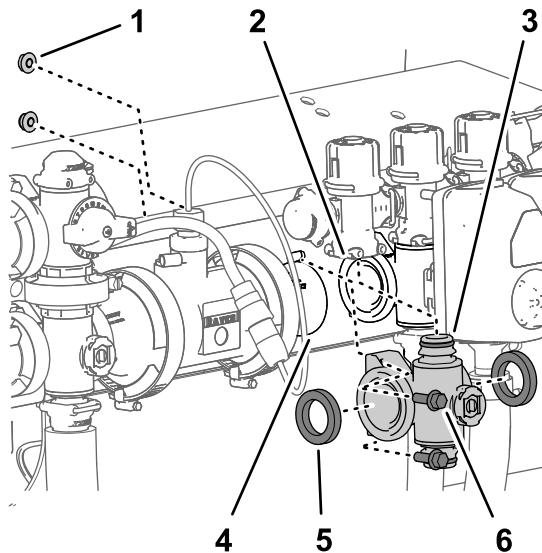
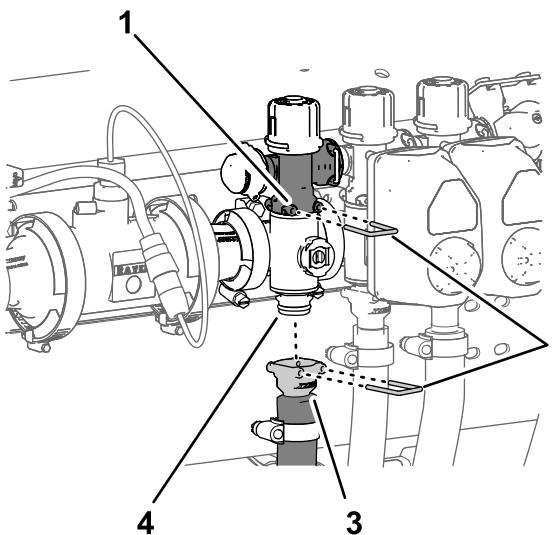

Figure 119
Figure 120
1. Align the 2 gaskets that you removed in Removing the Section-Manifold Valve \(page 79\) to the flanges of the section-valve manifold (Figure 119).
2. Align the flange of the section-valve manifold between the flanges of the other section-valve (s) and/or coupling adapter (Figure 119).
3. Assemble the quick-connect fitting of the section-valve manifold to the quick-disconnect socket of the section-bypass valve with a quick-connect pin (Figure 119 and Figure 120).
5. For left or right section-valve manifolds, assemble the section-valve manifold to the valve support (Figure 119) with the 2 flange-head bolts (1/4 x 3/4 inch) and 2 flange locknuts (1/4 inch) that you removed in Removing the Section-Manifold Valve \(page 79\).
8. Assemble the quick-connect coupler of the section hose onto the quick-connect fitting of the section-valve manifold with the quick-connect pin (Figure 120).